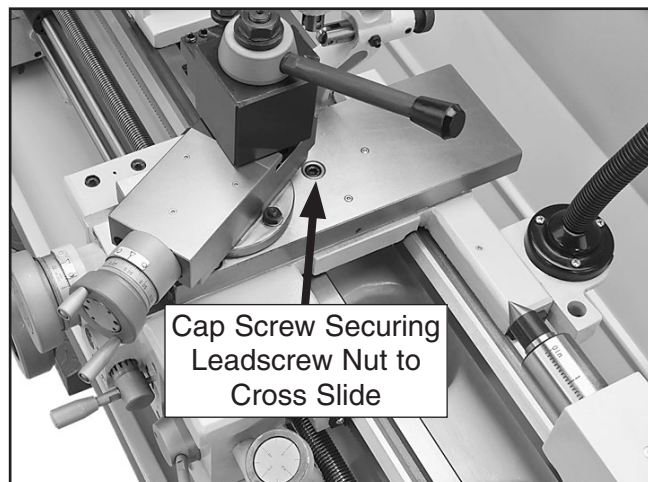

Figure 103. Location of cap screw that secures the leadscrew nut.
2. Remove cap screw that secures cross slide leadscrew nut (see **Figure 103**).